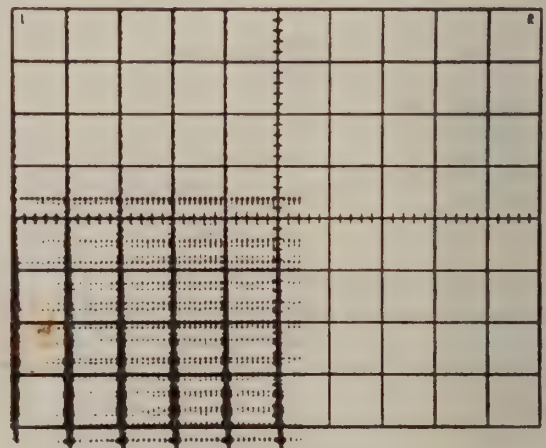

Fig. 4-4. Typical CRT display when checking sweep length.
b. Rotate the MAIN TRIGGERING LEVEL control for a triggered display. Rotate the POSITION control to position the eleventh one-millisecond marker at the center vertical graticule line (see Fig. 4-4).
c. CHECK—CRT display for sweep length of 10.4 divisions within 0.3 division, as shown by 0.1 to 0.7 division of display to the right of the center vertical graticule line (see Fig. 4-4).